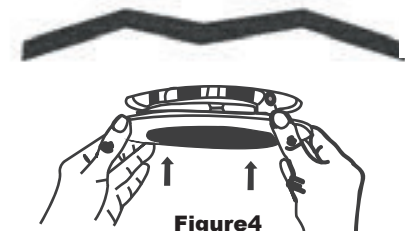

Figure4
- STEP5:** Tuck all wires into the housing and carefully push the LED trim until its outer edge is flush against the ceiling surface. (Figure 4)